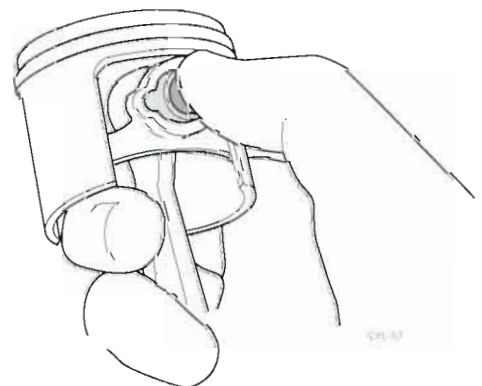

Figure 7.14 Piston Pin Installation (757 only)
- STEP 3.** Using hand pressure alone, push the piston pin through the piston boss and bearing until it is centered between the two retaining ring grooves (Figure 7.14).